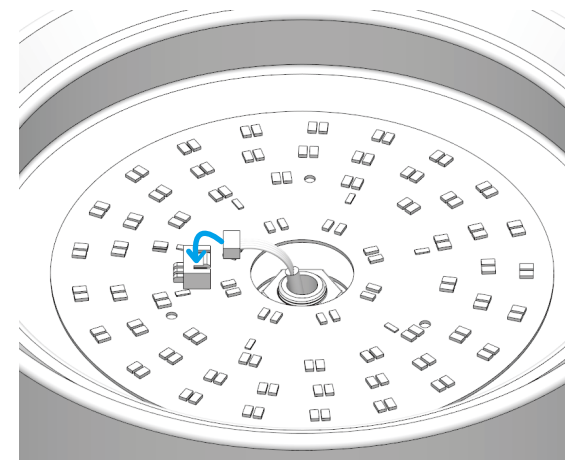

Fig. 4.2
4.3 Allow the wire plug to pass through the light kit. Reinstall the light kit. The light kit will be magnetically attracted to the pan with the help of magnets. Insert the wire plug into the light kit terminal block as shown in Fig. 4.2.